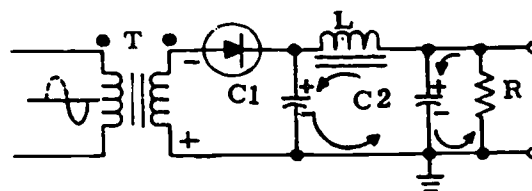

Figure 6-31. LC-pi filter (negative half cycle).
To begin your study of pi-type filters, consider the pi-type filter that contains an inductor, figure 6-30. The components which make up the filter are C1, L, and C2. With a sine wave applied to the rectifier circuit, the positive half-cycle on the secondary of T forward-biases the diode, which begins to conduct. Simultaneously, C1 and C2 begin to charge. C1 charges to peak voltage, but C2 charges through L to a lower voltage. The negative half cycle on the secondary of T reverse-biases the diode, and capacitors C1 and C2 discharge through the load resistor (see fig. 6-31). This type of arrangement will give a fairly high output voltage and good voltage regulation.
4. What kind of output voltage and voltage regulation will the negative half cycle on the secondary of T, which reverse-biases the diode, and the discharge of capacitors C1 and C2 through the load resistor (shown in fig. 6-31) yield?